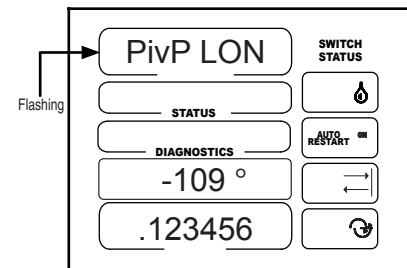

Figure 48-2
3. PivP LON should be flashing and the pivot point longitude value is displayed. Default longitude is 180°. See figure 48-2.